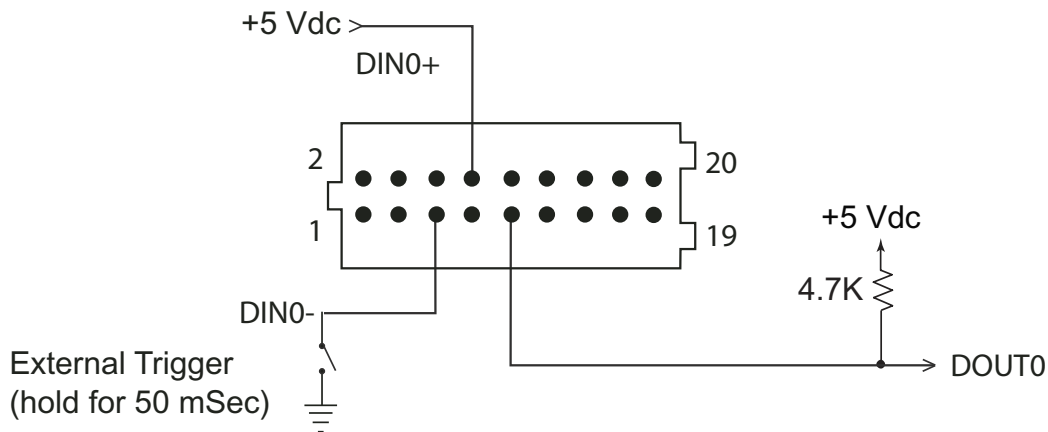

Figure 20—Typical Digital Input Trigger Circuit
12. As shown in Figure 20, apply +5 Vdc to DIN0+ (Pin 8) on SCON1.